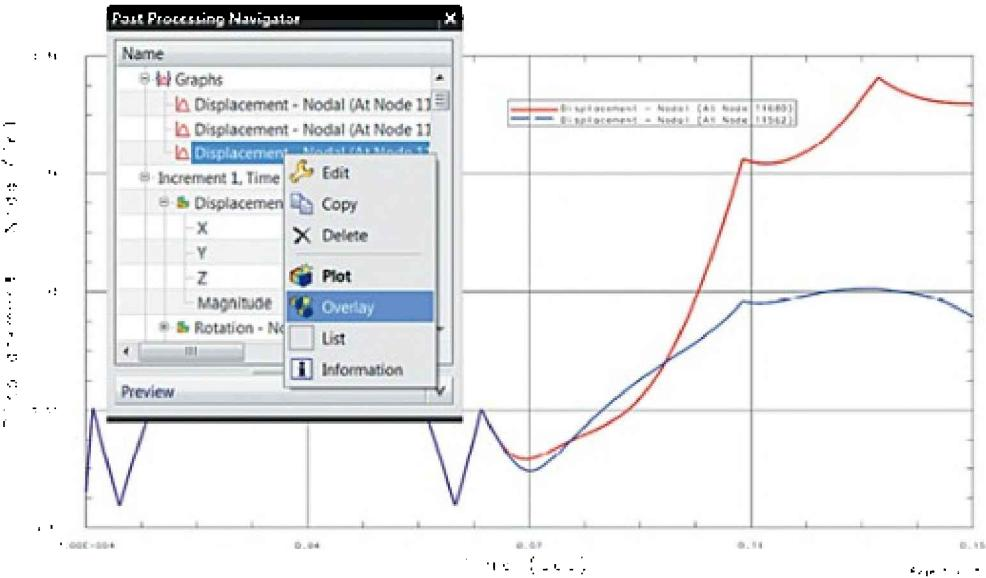

Figure 5.46. Overlaying graphs
- Use the **Overlay** command to plot the graph over another graph displayed in the graphics area (Figure 5.46).